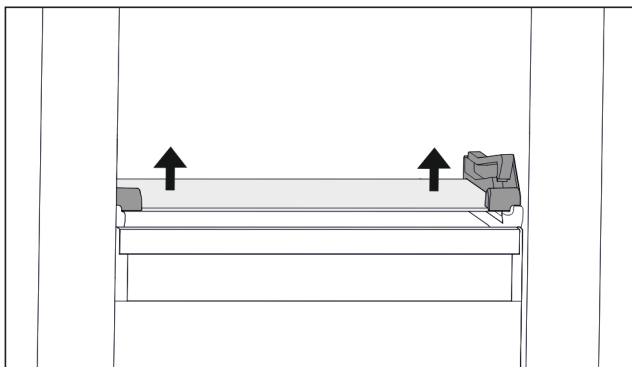

Fig. 92 Tilting drawer glass shelf
- ▶ Press the glass shelf upwards from below on both sides. (see Fig. 92)